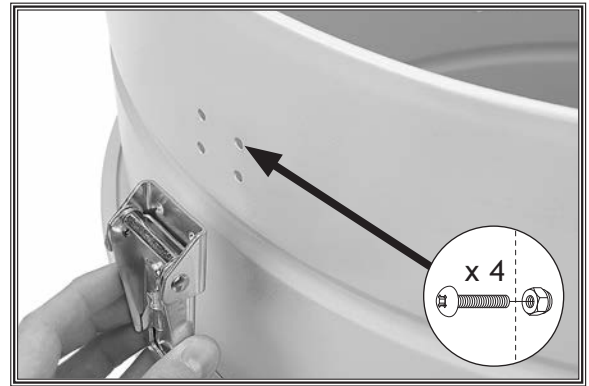

Figure 20. Attaching latch to collector drum.
19. Attach both drum latches using (4) M4-.7 x 8 Phillips head screws and (4) M4-.7 lock nuts per latch (see Figure 20).